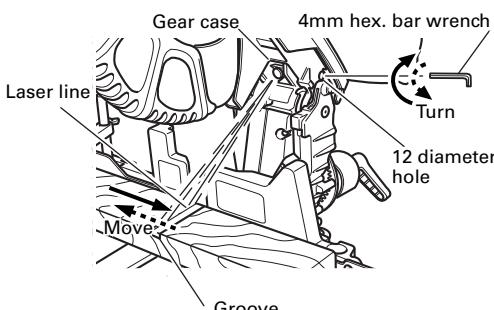
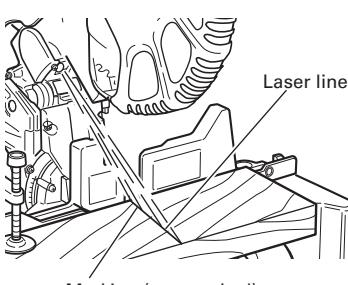

Fig. 19
Fig. 20
- (2) Then insert a 4mm hex. bar wrench in the 12 diameter hole on the side of the gear case, turn the hex. socket set screw to move the laser line. (If you turn the Hex. socket screw clockwise, the laser line will shift to the right and if you turn it counterclockwise, the laser line will shift to the left.) When you work with the ink line aligned with the left side of the saw blade, align the laser line with the left end of the groove. (Fig. 19) When you align it with the right side of the saw blade, align the laser line with the right side of the groove.
- (3) After adjusting the position of the laser line, draw a right-angle ink line on the workpiece and align the ink line with the laser line. When aligning the ink line, slide the workpiece little by little and secure it by vise at a position where the laser line overlaps with the ink line. Work on the grooving again and check the position of the laser line. If you wish to change the laser line's position, make adjustments again following the steps from (1) to (3).
**NOTE:** Check and make sure on a periodic basis if the position of the laser line is in order. As regards the checking method, draw a right-angle ink line on the workpiece with the height of about 1-1/2" (38mm) and the width of 3-1/2" (89mm), and check that the laser line is in line with the ink line [The deviation between the ink line and the laser line should be less than the ink line width (0.5mm)]. (Fig. 20)